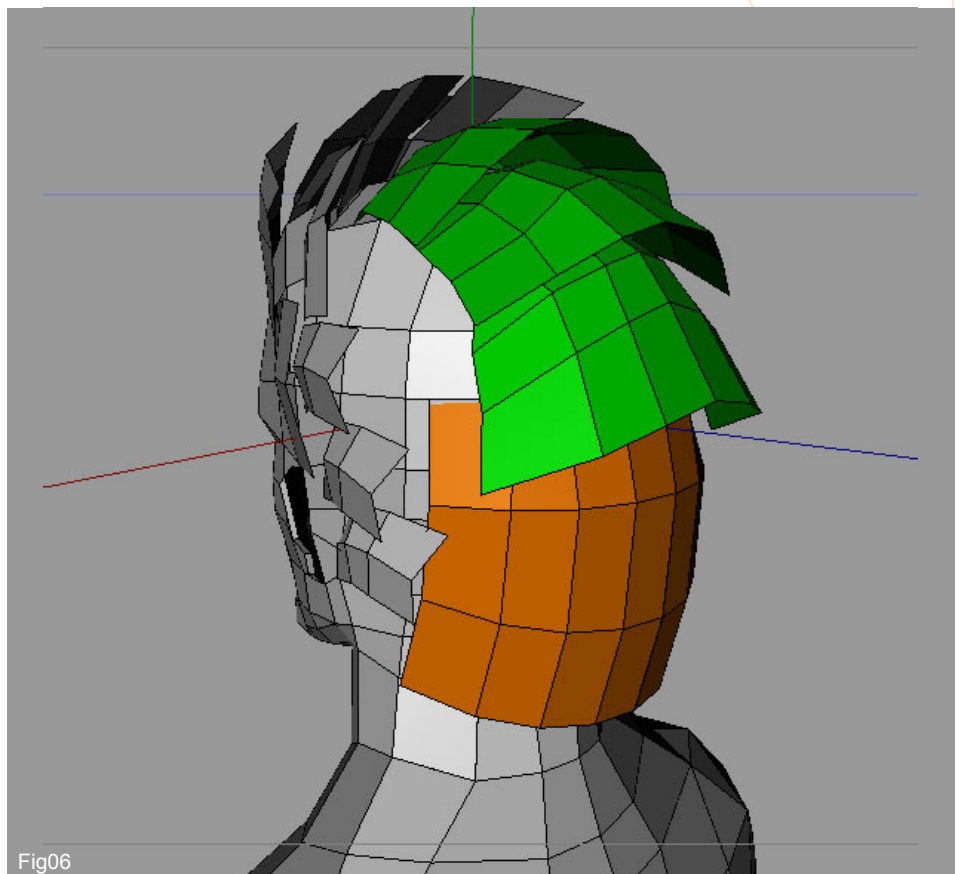

Fig06
6. The central sections are done by three rows of green polygons as seen in Fig06. Once again do not worry about the verts aligning, just concentrate on shaping the mesh to follow the shape of the head in the same way as we have done before.